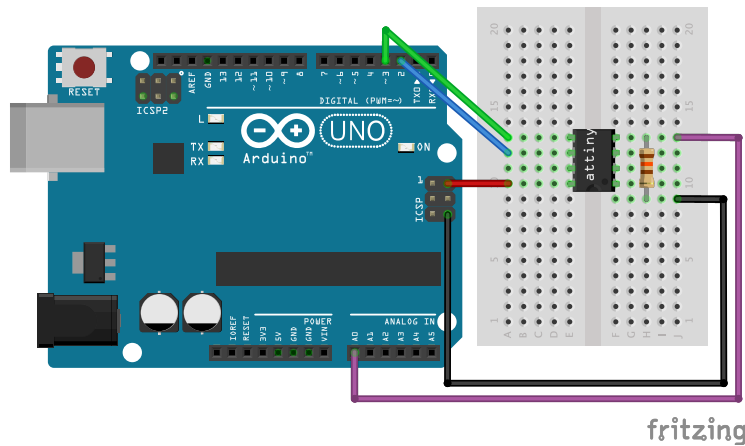

Figure 3: Current measurement using a resistor in series with the ATtiny's GND. The LED is removed in order not to disturb the current reading.
- i. Arduino: Add a 120 Ohm (brown-red-brown) resistor to the GND line of the ATTiny to be able to measure the current on Analog input 0 (A0) of the Arduino (see Figure 3).